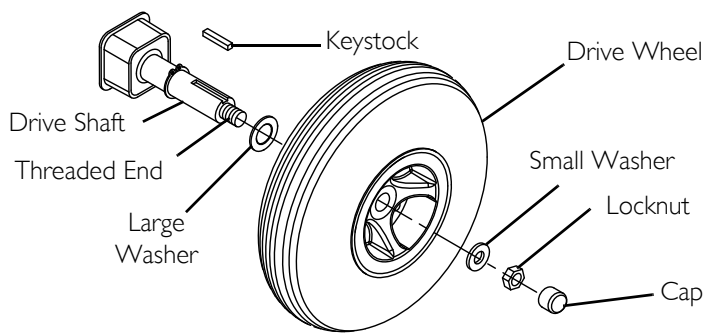

FIGURE 10.1 Removing/Installing the Drive Wheels
NOTE: For this procedure, refer to FIGURE 10.1 on page 29.
1. Place keystick in cutout on drive shaft as shown in FIGURE 10.1.